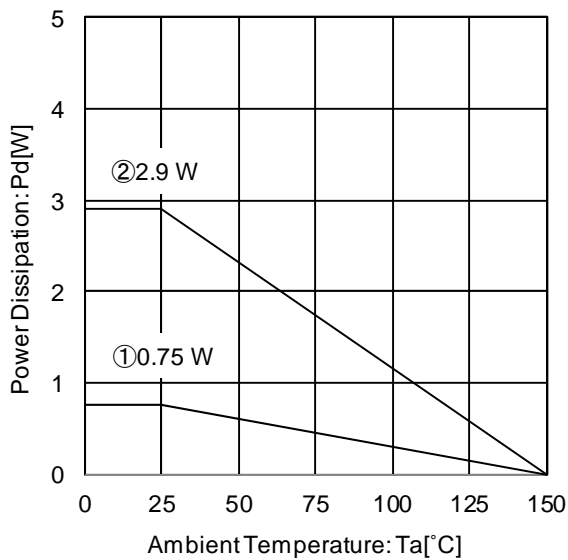
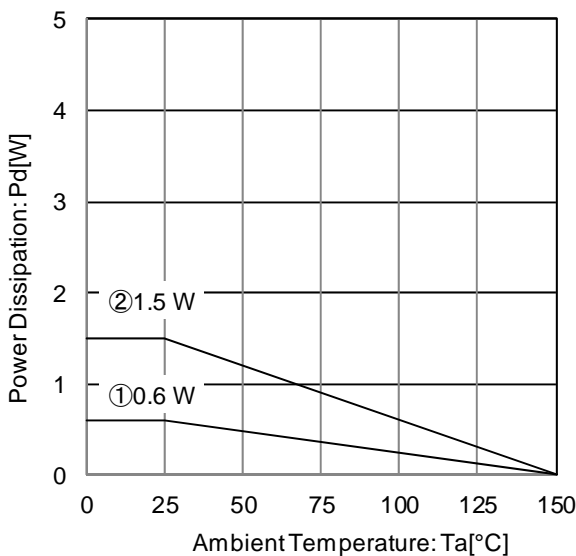

Figure 25. Package Data (HTSOP-J8)
Figure 28. Package Data (SOT223-4F)
Refer to the heat mitigation characteristics illustrated in Figure 25 to Figure 28 when using the IC in an environment of $T_a \geq 25^\circ\text{C}$. The characteristics of the IC are greatly influenced by the operating temperature, and it is necessary to operate under the maximum junction temperature T_{jmax} . Even if the ambient temperature T_a is at 25°C it is possible that the junction temperature T_j reaches high temperatures. Therefore, the IC should be operated within the power dissipation range.
At $T_a=125^\circ\text{C}$ with Figure 25 ② condition, the calculation shows that ca 56.4mA of output current is possible at 10.2V potential difference across input and output.
At $T_a=125^\circ\text{C}$ with Figure 25 ② condition, the calculation shows that ca 67.7mA of output current is possible at 8.5V potential difference across input and output.
At $T_a=125^\circ\text{C}$ with Figure 28 ② condition, the calculation shows that ca 29.4mA of output current is possible at 10.2V potential difference across input and output.
At $T_a=125^\circ\text{C}$ with Figure 28 ② condition, the calculation shows that ca 35.2mA of output current is possible at 8.5V potential difference across input and output.